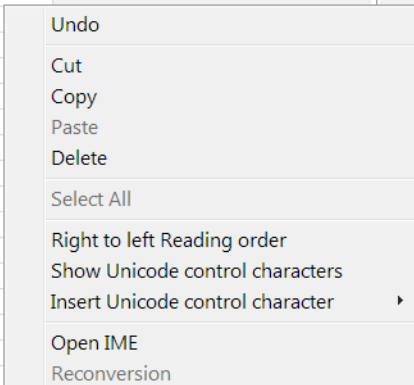

Figure 9-45: Entering or Editing Biosensor Information
1. Optional: Double-click in any cell in the **Lot Number** column to enter the biosensor lot number. All wells in the **Lot Number** column for that biosensor type will automatically populate with the lot number entered (see Figure 9-45).
2. Optional: Double-click a cell in the **Information** table column. Enter or edit the biosensor information as appropriate (see Figure 9-45).